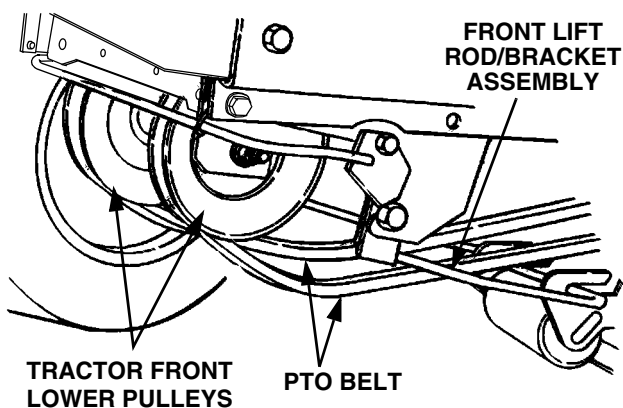

Figure 35
10. From the front of the tractor, loop the PTO belt with the narrow side of the 'V' belt inward; then pass the belt upward in front of the lower front pulleys and inside the tractor frame (Refer to Figure 35).
12. Twist the two sides of the PTO belt 1/4 turn inward to engage the narrow sides of the belt into the grooves of the two tractor front-lower pulleys (See Figure 35).